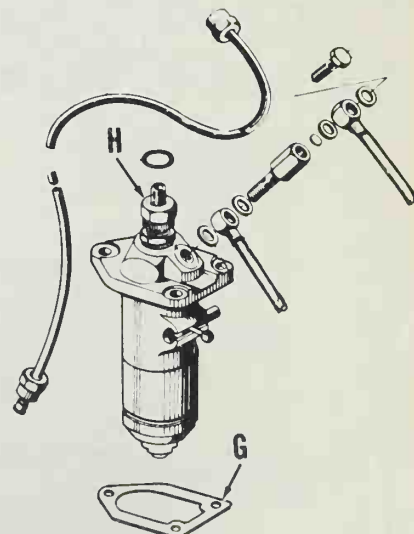

Fig. KR1-3—Injection timing is adjusted by varying thickness of shim gasket (G). Refer to text for timing procedure.
INJECTION PUMP TIMING. Injection pump timing is adjusted using shims (G—Fig. KR1-3). To check injection pump timing proceed as follows: Disconnect high pressure line from injection pump then unscrew delivery valve holder (H) and remove spring and delivery valve assembly. Reinstall delivery valve holder (H) and connect a suitable spill pipe to valve holder. Aim spill pipe at a receptacle to catch discharged fuel. Move throttle control to full open position. Rotate engine flywheel slowly in running direction (engines are designed for clockwise or counter-clockwise rotation) until fuel just stops flowing from spill pipe. Note rated rpm of engine and refer to following table for desired injection timing: